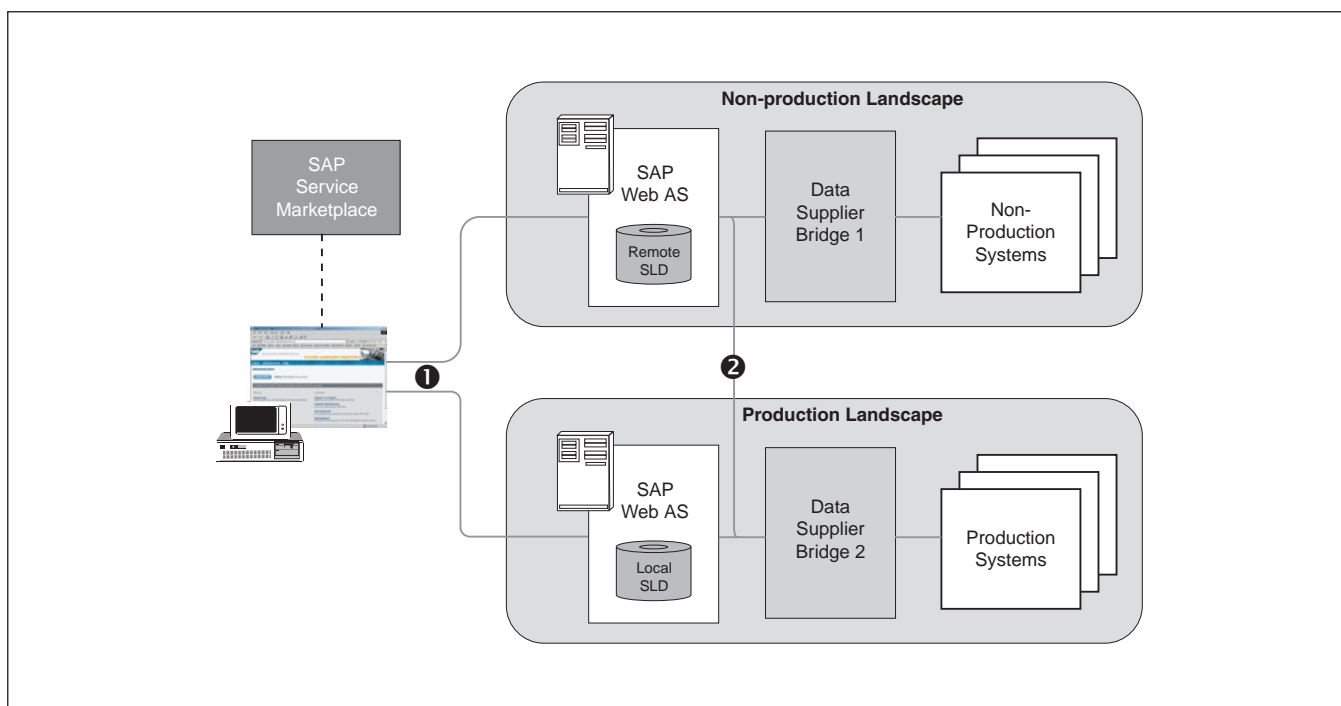

Figure 13 Two SLDs for two separate system landscapes
Let's take the SLD topology in **Figure 13** as an example. Here, the systems are divided into two landscapes: production and non-production. With this configuration, the production systems are protected from exposure to the non-production systems, increasing security. Each system landscape has a single SLD server that simultaneously receives
- **Content forwarding:** With content forwarding which is shown in Figure 13, a local server forwards its content to a remote server. Forwarding happens automatically via a data supplier bridge whenever a local server receives new content from its data suppliers. With this topology, the content in the remote SLD server is a complete set, including the content of all its associated local SLD servers. The local SLD server contains only its own data, unless it also serves as a remote server for another local server that feeds it data. For example, let's say that there are three SLD servers in a large enterprise: Server A is a remote SLD server at the corporate level that contains information about the entire company. Server B is a local SLD server that contains information about the entire pharmaceutical division. Server C is another local server that contains information about the production environment of the pharmaceutical division. When Server C receives data from a data supplier, it forwards its content to Server B. When Server B receives data from Server C, it forwards its content to Server A.